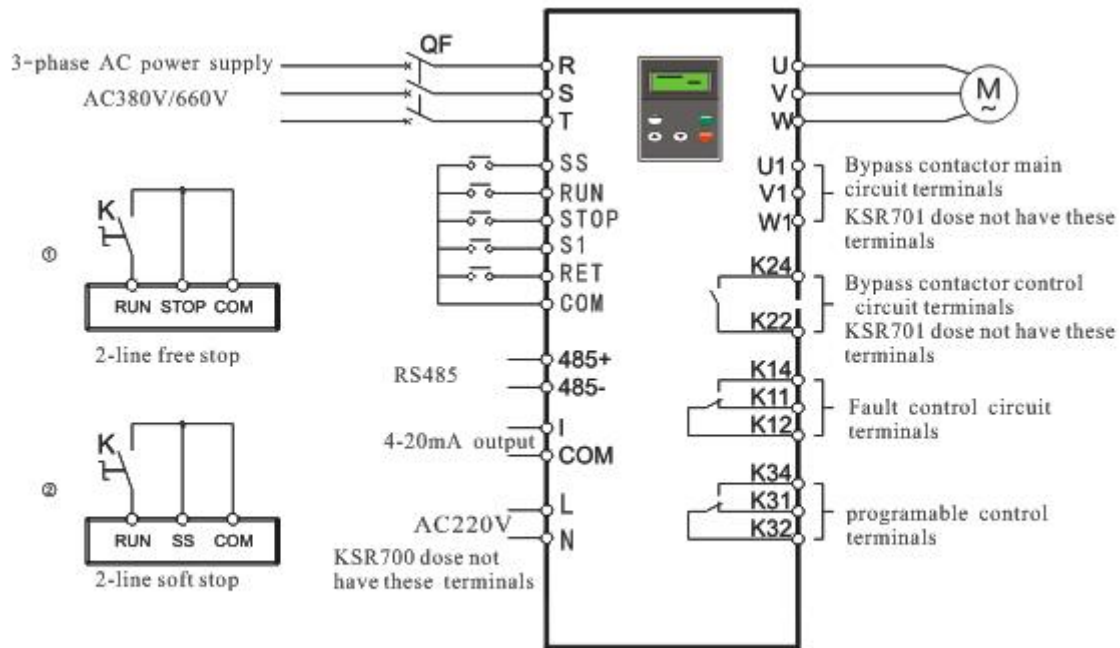

图 5-1
Note ①: There are two connecting mode, see figure 5-1